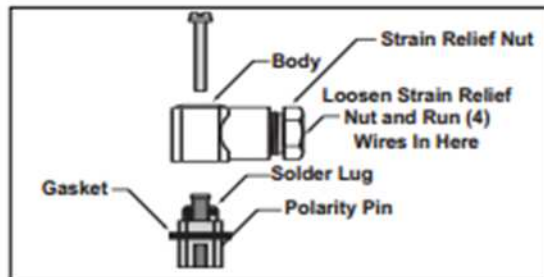
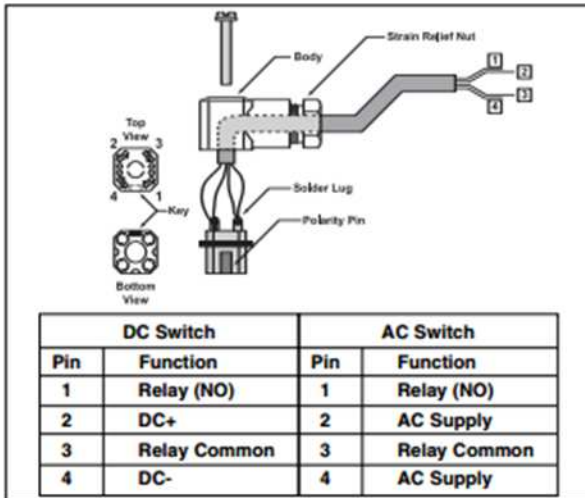

Figure 13. Latching Switch Installation
Figure 14. Latching Switch Installation
2. The connector has four solder lugs labeled 1, 2, 3 and 4. Soldering wires to the terminals first requires disassembly of the connector as shown in Figure 13. The specific wiring pinouts for each style latching switch are shown in Figure 14.